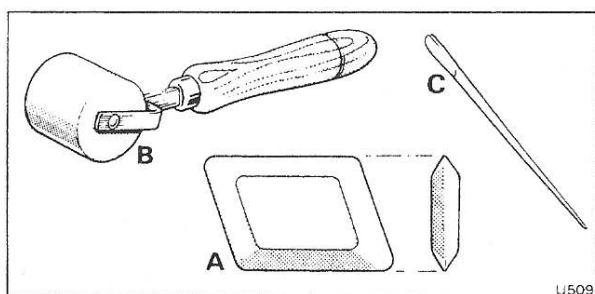

Fig. S95 Tools
13. Using a tool similar to the one shown in Figure S95, item A, carefully work the tool along the inside of the stitched seams.
Using a roller (see Fig. S95, item B) carefully align the seam with the ridge until a perfectly straight line is achieved; leave to dry.